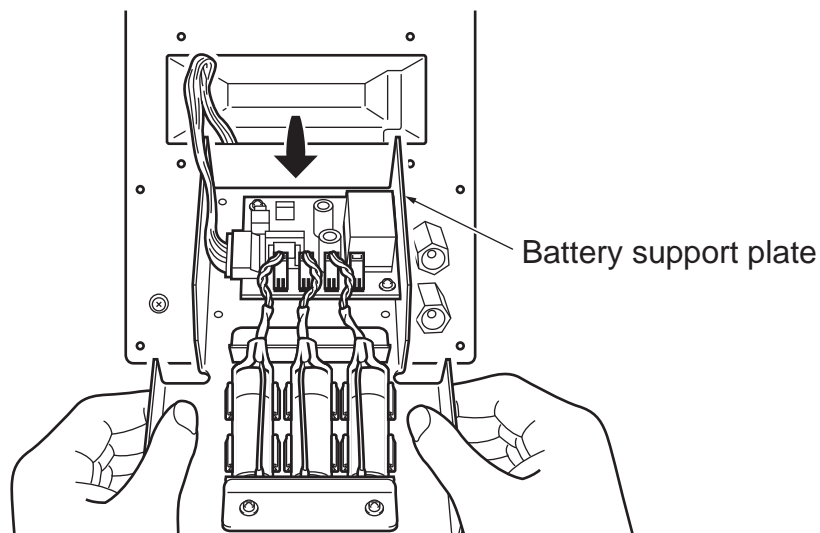

Figure 5-2. Removing Battery Support Plate
4. Pull out the battery support plate. See Figure 5-2.